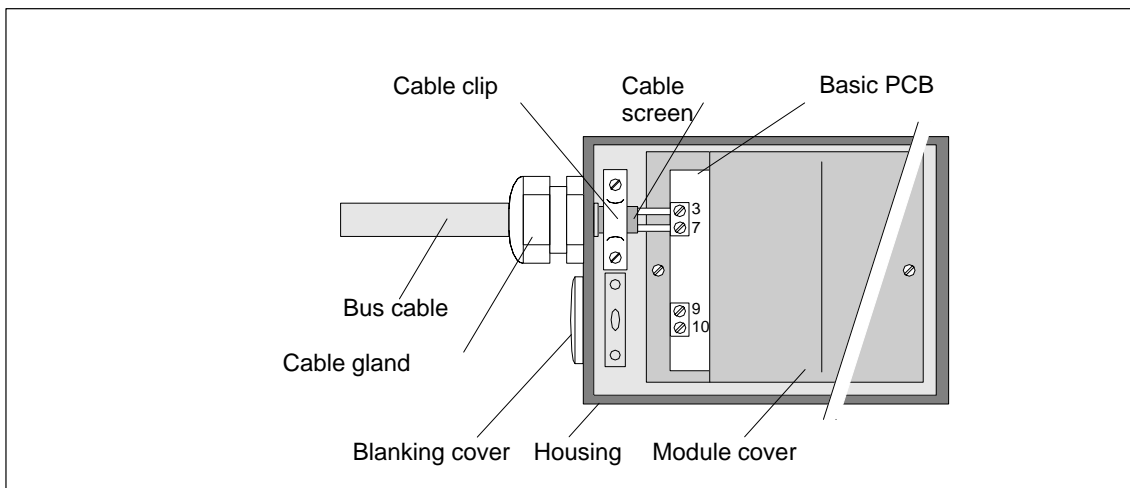

Fig. 3-12 Connection of the bus cable, **devices with PROFIBUS PA**
6. Connect the red and green conductors as shown in Fig. 3-12 to terminals 3 and 7 of the basic PCB. (The polarity is irrelevant.)